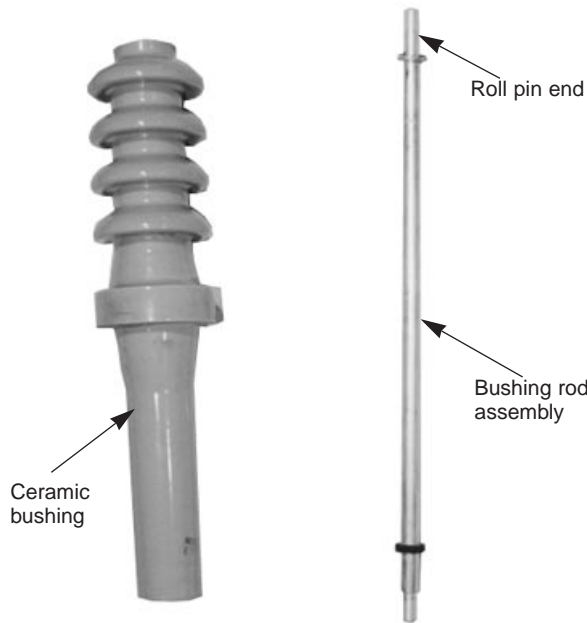

Figure 12.
2. Place the bushing rod assembly inside of the ceramic bushing with the roll pin end toward the top of the bushing. Turn the assembly until the roll pin fits into the slots on the top inner end of the ceramic bushing (refer to Figures 12 and 14). Repeat this step with the other two bushings.